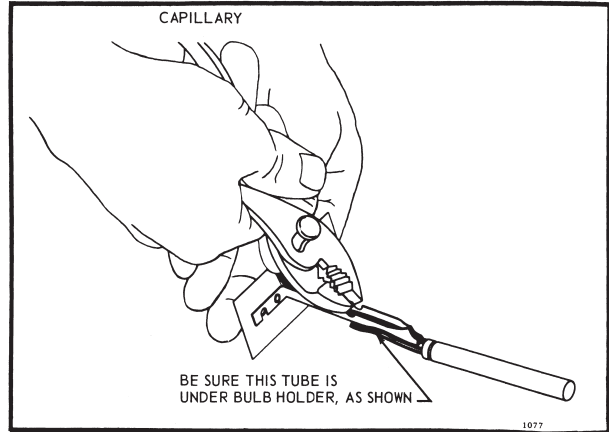

FIG. 4—INSERTING CAPILLARY TUBING IN HOLDER.
4. Place capillary tubing in bulb holder channel, and pinch top edges of holder together at each segment, as shown in Fig. 4.